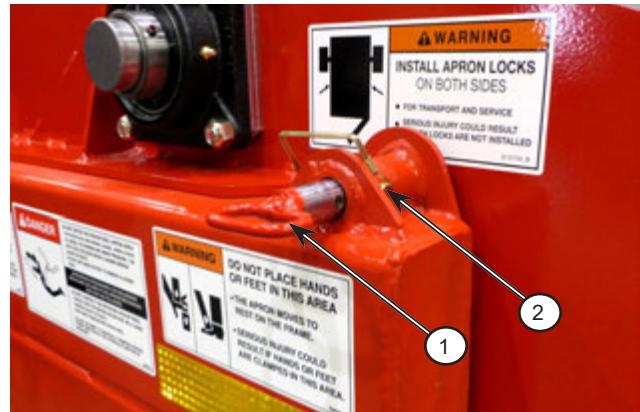

Figure 6.6: Remove the locking pins
2. Remove the apron locks from the storage position on the left and right frame rail; see *Figure 6.6*.
- a. Remove the  $\frac{5}{16}$ " locking pins (2) from the 1" apron pins (1) and frame.